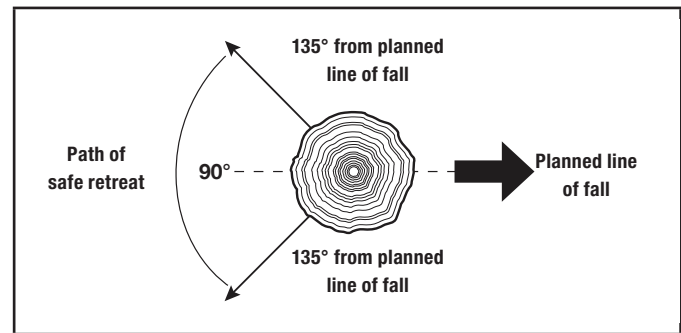

Figure 9
- Determine a safe and expedient escape route. Clear the area around the tree and make sure there are no obstructions blocking the escape route. Establish a 90° corridor of escape, approximately 135° from the line of fall (Fig. 9).